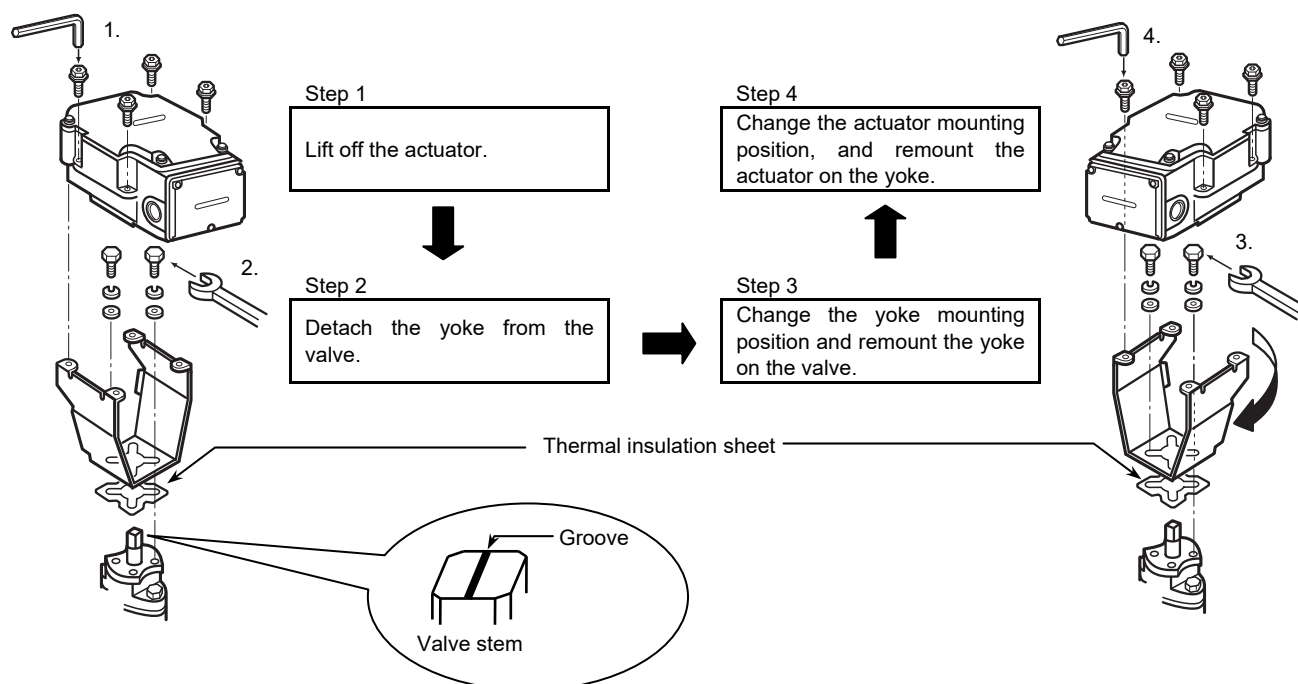

Figure 10. Changing the actuator mounting position
- 1) Remove the screws connecting the actuator and the yoke. Lift the actuator and detach it from the yoke. Make sure that the groove on the top of the valve stem is parallel to the pipes (indicating the valve in 100 % position). <Step 1 in Fig. 10>
- 2) Remove the screws connecting the yoke and the valve. <Step 2 in Fig. 10>
- 5) Before fixing the yoke to the valve with the screws, check that the actuator engages correctly with the valve stem (at the new mounting position). Check that the pointer of the actuator indicates 100 % position as well. Then, fix the yoke to the valve. <Step 3 in Fig. 10>
- 6) Mount the actuator. Place the actuator, with its facing direction changed, on the yoke, and fix with the screws. <Step 4 in Fig. 10>